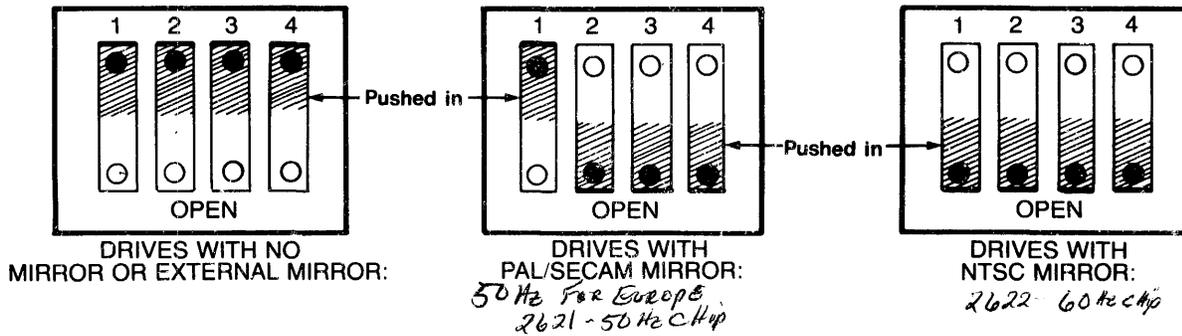

Figure 10. Mirror Micro Switches
*If you are using a 6MB drive, verify that the microswitches on the rear bezel are set correctly (see Figure 10).*
When the internal Mirror is installed all switches should be in the open position, that is, all switches are pushed in at the bottom (see Figure 10).
5. If the drive is of PAL/SECAM format (European), switch one will remain in the closed position (see Figure 10).
5. If you have a 6MB drive, set the switches on the rear panel of your drive making sure that the switches are fully depressed (see Figure 10).